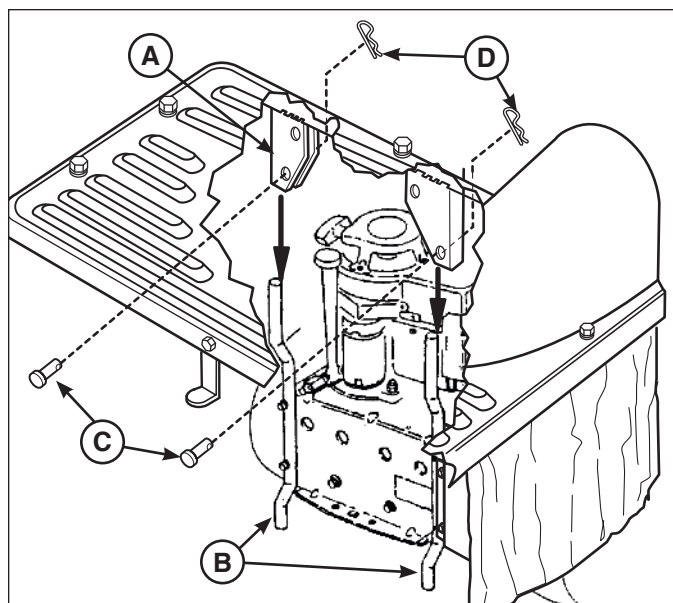

Figure 9 (Components removed for clarity)
1. Install the bagger frame brackets (A, Figure 9) onto the rear bumpers (B).
2. Insert the clevis pins (C) through the bottom holes on each side of the bagger frame brackets, and secure with the hairpins (D).